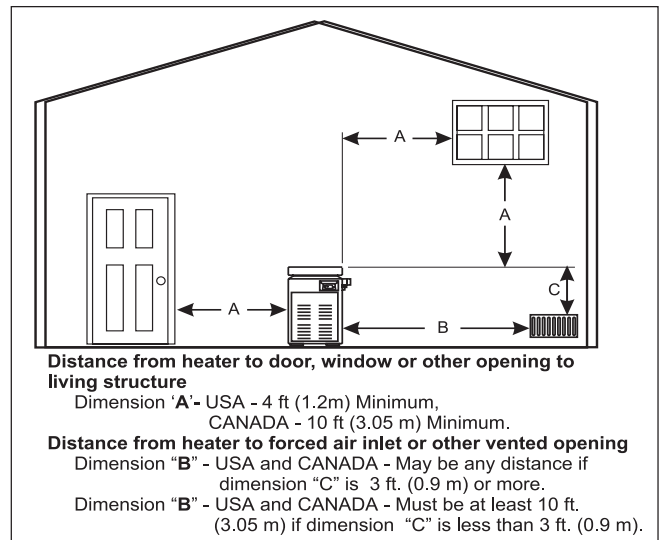

Figure 3. Outdoor Heater Installation
Do not locate the heater below or adjacent to any doors, glass openings, louvers, grills, etc., which connect in any way with an inhabited area of a building, even though the access might be through another structure (e.g., a garage or utility room). In the United States there must be a minimum of four (4) feet (1.22 m) horizontally **and** four (4) feet (1.22 m) vertically between the heater exhaust point and any door, glass opening, or gravity inlet to a building. In Canada, the heater must be installed so that the exhaust point of the heater is at least ten (10) feet (3.0 m) from any building opening (see Figure 3).